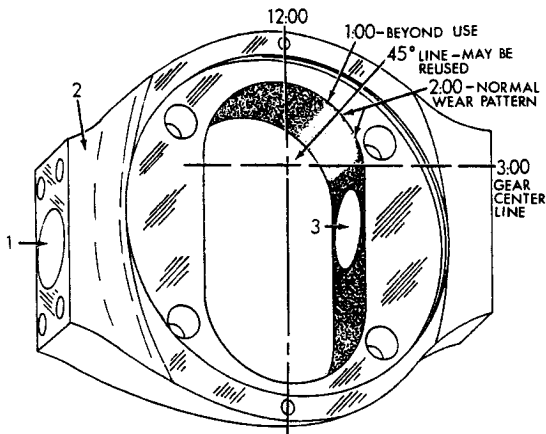

Fig. 7 -- Typical Gear Case Wear Pattern
- a. GEAR CASE. Refer to Fig. 7; if wear pattern extends no closer to 12:00 than 45° line, housing may be reused; if pattern extends to 1:00 area, housing must be considered worn out.
- a. GEAR HOUSINGS. Refer to Fig. 7; if wear pattern extends no closer to 12:00 than 45° line, housing may be reused; if pattern extends to 1:00 area, housing must be considered worn out.